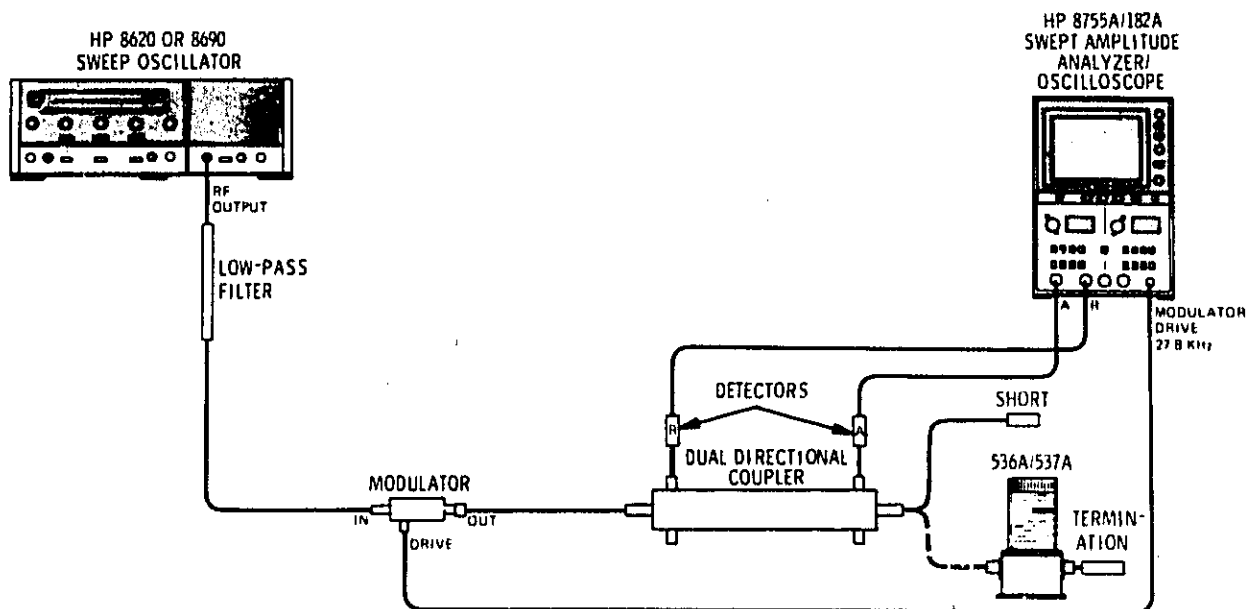

Figure 2. Return Loss Test Setup
Purpose. The procedures listed in Figures 2 and 3 check performance for incoming inspection, periodic evaluation, and calibration. The tests are performed without any access to the instrument interior. The specifications of Table 1 are the performance standards.
1. Connect the equipment as shown in Figure 2.